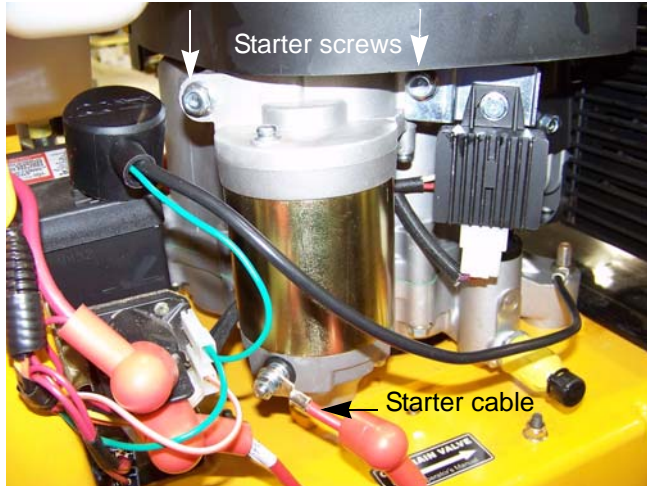

Figure 6.1
3. Remove the two screws that secure the starter to the engine using a 12 mm wrench. See Figure 6.1.